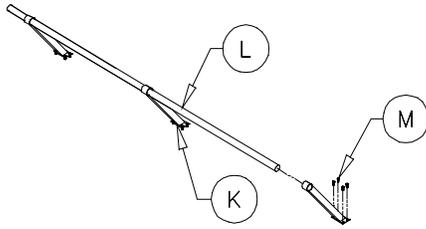

Figure 9
Procedure: Measure the outside distance from the front hood to the rear hood. Measure the length of the Support Wall Roll-tube (L) to make sure that it will fit between the hoods. The Support Wall Roll-tube should be 2" shorter than the distance that you measured from hood to hood. Cut off any excess material from the Support Wall Roll-tube if necessary. Slide the Support Wall Brackets onto the Support Wall Roll-tube. Fasten the Support Wall Roll-tube to the hoods using four 5/16"x2-1/2" truss head bolts (N) and 5/16" lock nuts. Evenly space the Support Wall Brackets between the hoods and secure to the top of the box wall using four 5/16"x1" self-threading bolts (M) provided (See Figure 9,10).